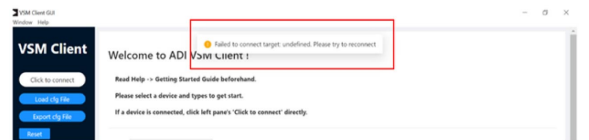

Figure 22. Failed to Connect Target Error
- a. **Failed to connect target: undefined. Please try to reconnect.** If this pop-up appears (see Figure 22), select the other COM port and reconnect.